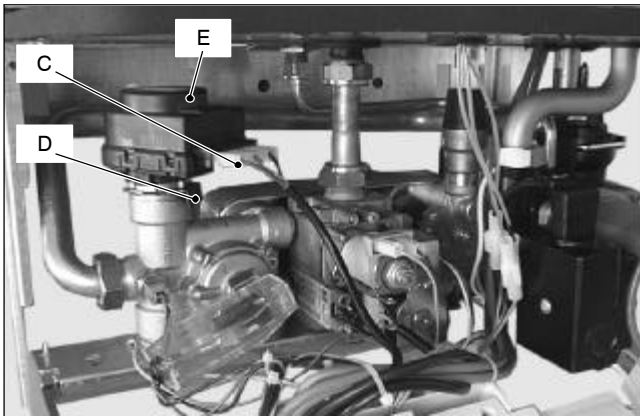

Fig. 23
- 2 Disconnect the connectors C (Fig. 23).